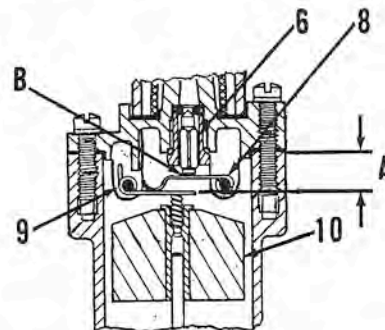

Fig. M26—Schematic view of float mechanism showing method of adjustment. Refer to text.
The recommended fuel level is approximately $\frac{1}{8}$ -inch below gasket surface of float bowl. To adjust the float, remove bowl cover (5) and refer to Fig. M26. Invert the cover and, with inlet needle (6) closed,